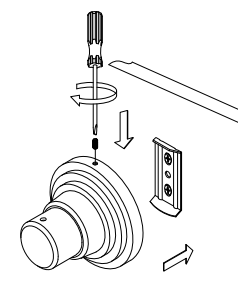

Fig. 6
Step 6. Place the mounting unit against the mounting plate that is installed to the wall surface. Above the mounting unit there is a small screw hole, tighten the set screw with a flathead screwdriver until it is securely fixed to the wall (Fig 6).